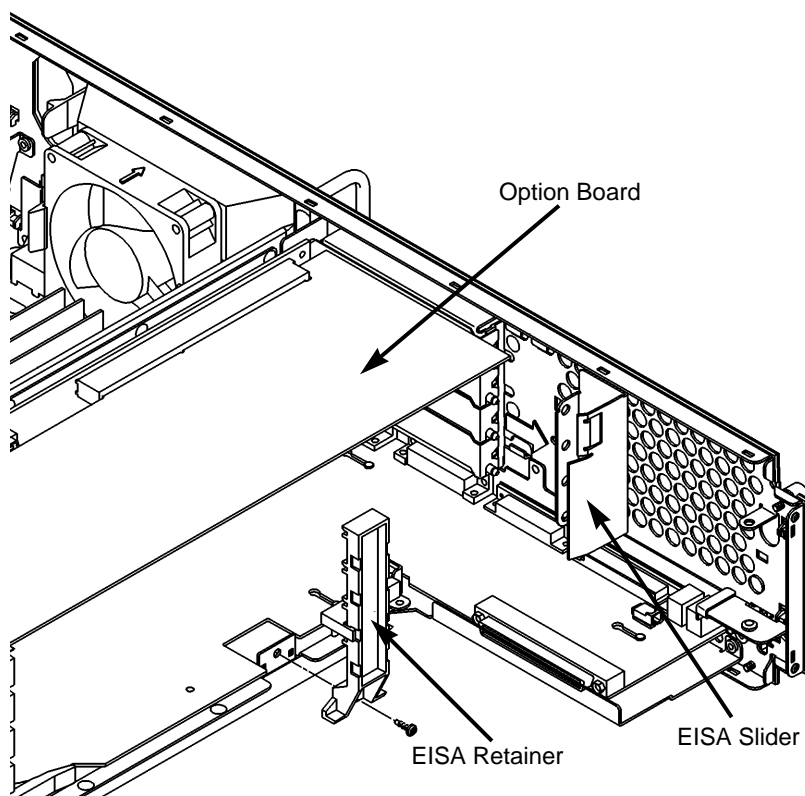

Figure 6
- 2 Slide the EISA slider to the side to remove it, as shown in Figure 6.
- 3 Remove the screw from the EISA retainer, as shown in Figure 6